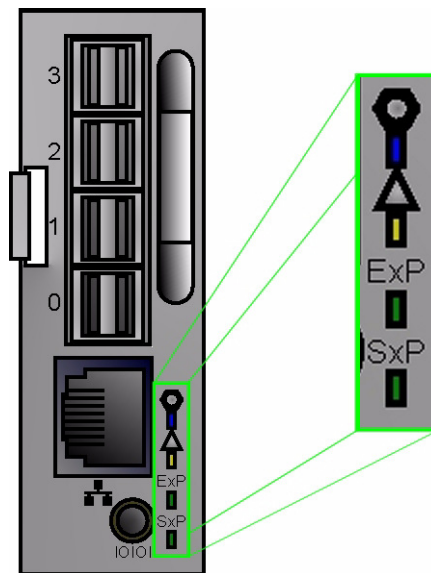

Figure 1-28 JBOD I/O LEDs
The top JBOD LED is a blue identification (ID) LED. The second is a green/amber fault LED. Below that is **ExP** (SAS activity of the expander on the StorBricks) activity LED and the **SxP** (SAS activity of the targeted SMP for the expander on the StorBricks) activity LEDs. (Figure 1-28)